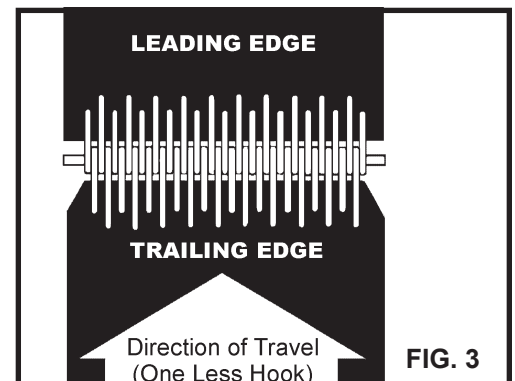

FIG. 3
2. The trailing end of the belt should have one less hook than the leading end (Fig. 3). This prevents hooks from getting caught on the conveyor framework and pulling out. The trailing end should be notched after hooks are installed to prevent belt rips/tearing.